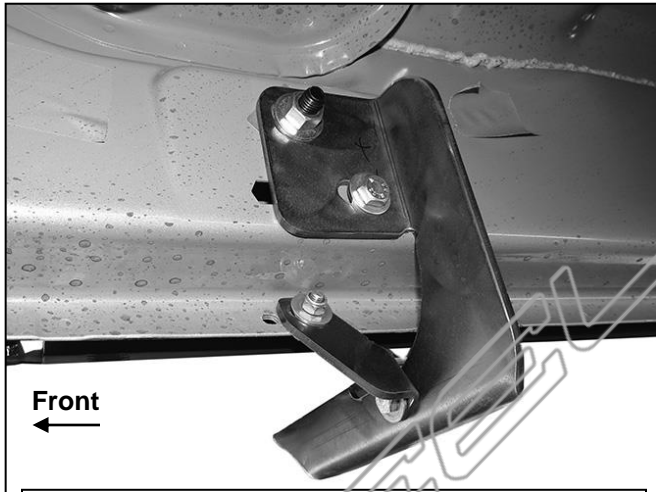

Fig 13
7. Attach the Running Board to the front and rear Brackets with (4) 6mm Flat Washers, (4) 6mm Lock Washers and (4) 6mm Hex Nuts, **(Figure 13)**. **NOTE:** The Running Board is designed to fit close to the vehicle. It may be necessary to loosen the Bracket hardware and tilt the Brackets downward to insert the Running Board between the Brackets and the body. Do not tighten hardware at this time.